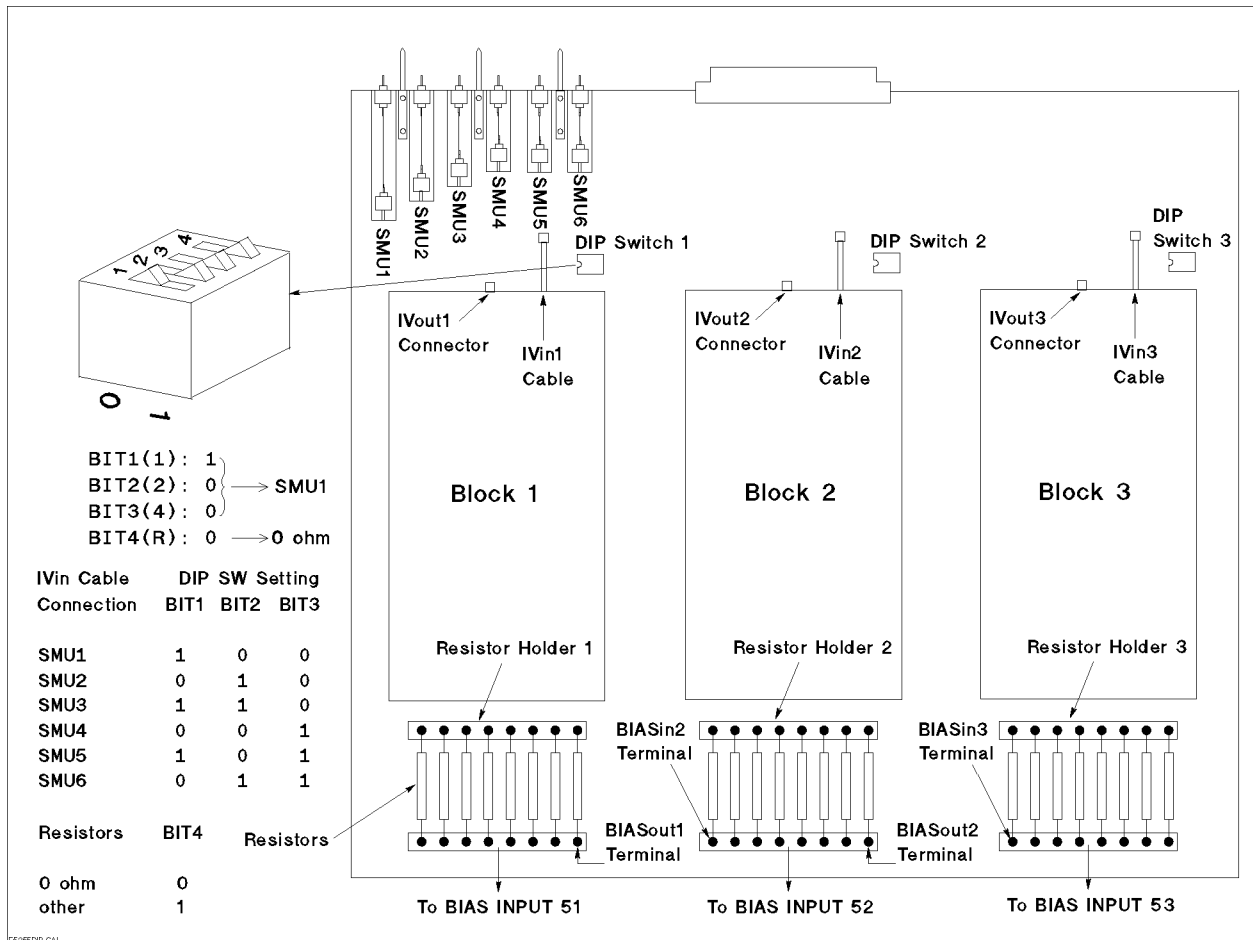

Figure 4-3. HP E5255A DIP Switch Settings
6. Set "DIP SW1", "DIP SW2", and "DIP SW3". See Figure 4-3. Settings for bits 1 to 3 of these three DIP switches must be the same.